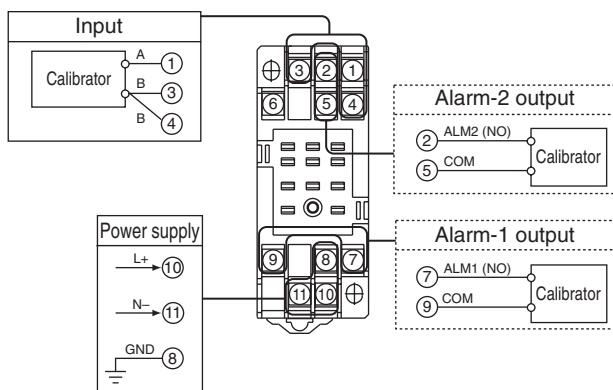

Fig. 12.1
- (1) Connect the instruments as shown in Fig.12.1 and Fig. 8.2.
- (2) Produce the input signal equivalent to 0% of the input range from the calibrator to the product. Then, read the input value of Display items, "A01: INPUT1" using the VJ77 or JHT200 and check that the input value is within the rated accuracy range. Take the same procedure for the input signal equivalent to 25, 50, 75 and 100% of the input range and check that the input values are within the rated accuracy range.